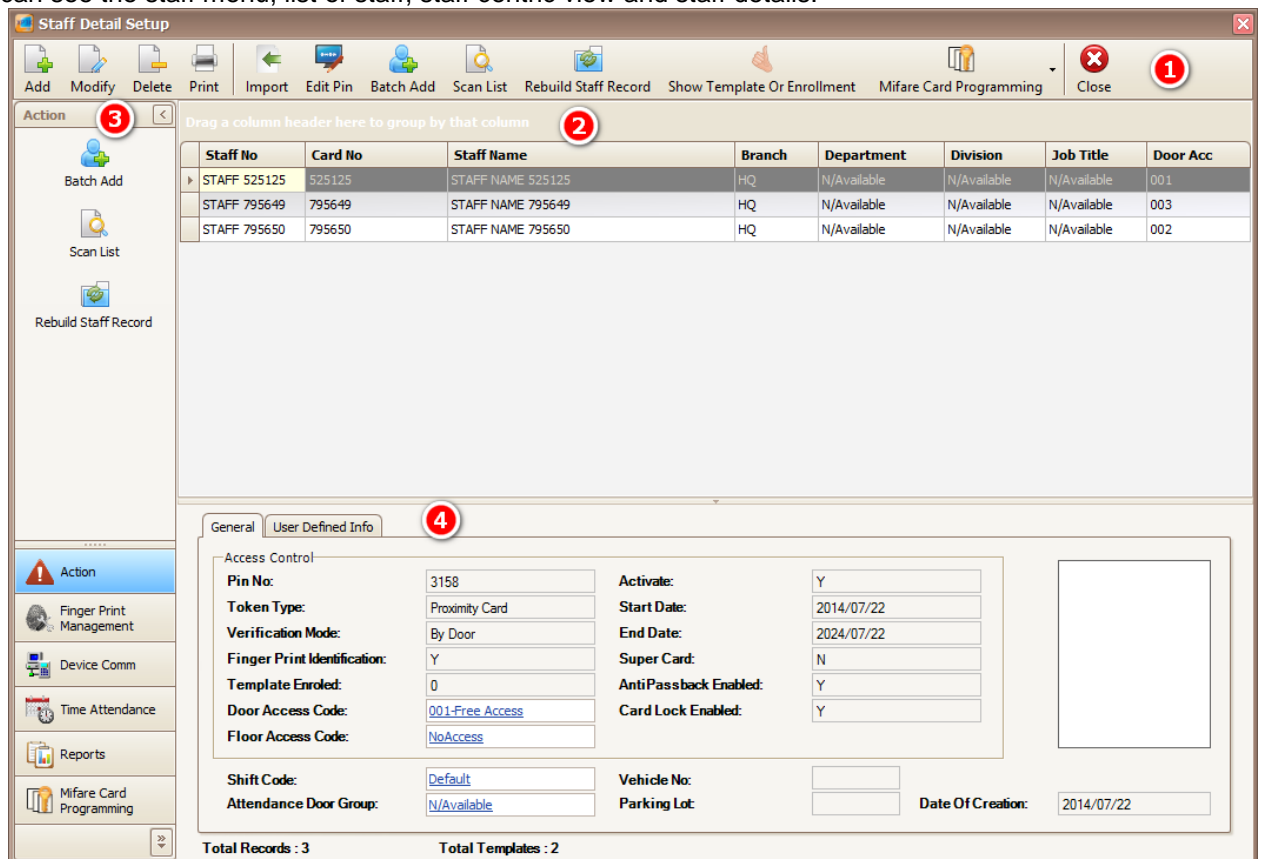

Figure 195 - Staff Detail Setup
2. The following window will be shown (Refer **Figure 195**). On the Staff Detail Setup window, you can see the staff menu, list of staff, staff centric view and staff details.